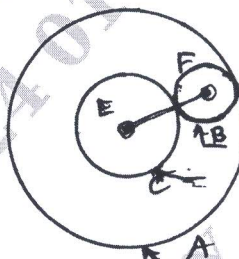

Fig Q8(b)
- b. An epicyclic gear consists of three gears A, B and C as shown in Fig Q8(b). The gear A has 72 internal teeth and gear C has 32 external teeth. The gear B meshes with both A and C and is carried on an arm EF which rotates about the centre of A at 18rpm. If the gear A is fixed. Determine the speed of gear B and C.